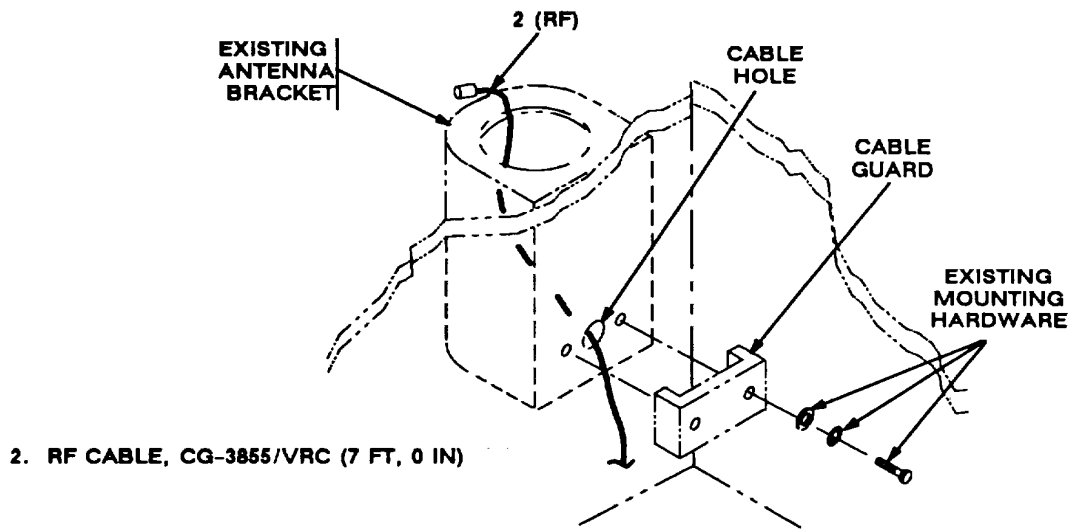

Figure 5-3 (2). Cable Installation: Curbside RF Cabling
g. RF cable (2).	Route behind equipment rack to rear of mounting base (4). See figure 5-3 (3).
h. RF cable (2) connector	Position on top of mounting base (4).